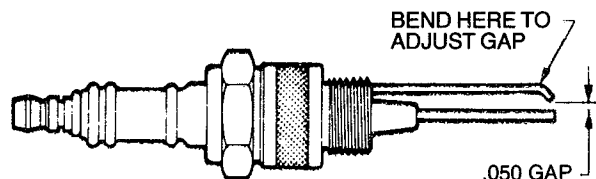

Figure 4
2. Remove the spark plug from the burner head, and check the gap between the electrodes, as shown in Figure 4.
3. Adjust the gap by bending the outside electrodes where shown in Figure 4. If you do not install the plug immediately, protect it from damage until it is reinstalled.